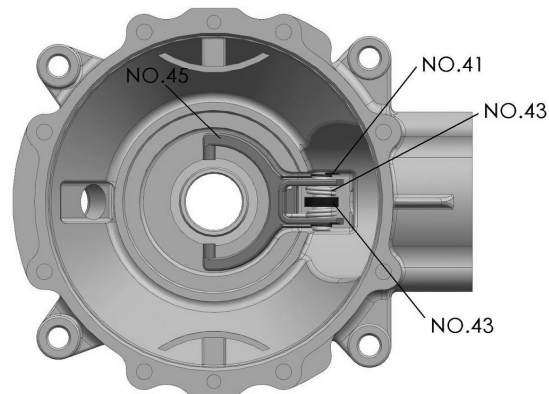

Fig 9
10.Inspect the shift lever (NO.43), shift level spring (NO.42), shift return spring (NO.41), and shift yoke (NO.45) for excessive wear or damage. If disassembly is required proceed to the next step. If no disassembly is required proceed to “Rear Gearcase Assembly.” →Fig 9